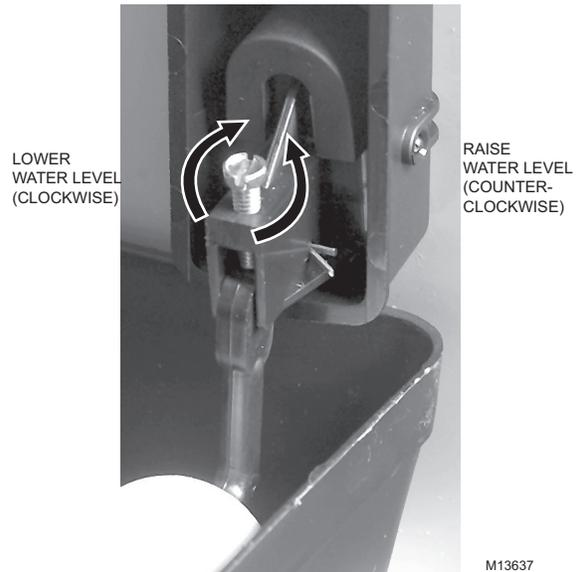

Fig. 52. Adjusting water level.
5. Adjust water level to 1-3/8 in. deep by turning the adjustment screw on the Float Valve. See Fig. 52. (Clockwise to lower water level, counter-clockwise to raise water level.)